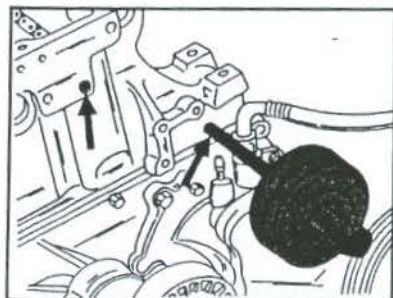

Fig. 1.68 - Remove the two bearing bolts in the manner shown out of the cylinder block.
- Withdraw the two bearing pins with the impact hammer and a threaded insert, as shown in Fig. 1.68 and lift out the slide rail. If no slide hammer is available, try the following: Slide a piece of tube over the bearing pin and place a washer over